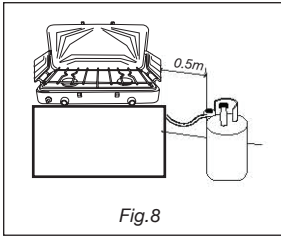

Fig.8
- Place the gas cylinder at least 0.5m away from the stove in an upright position. (Fig. 8)